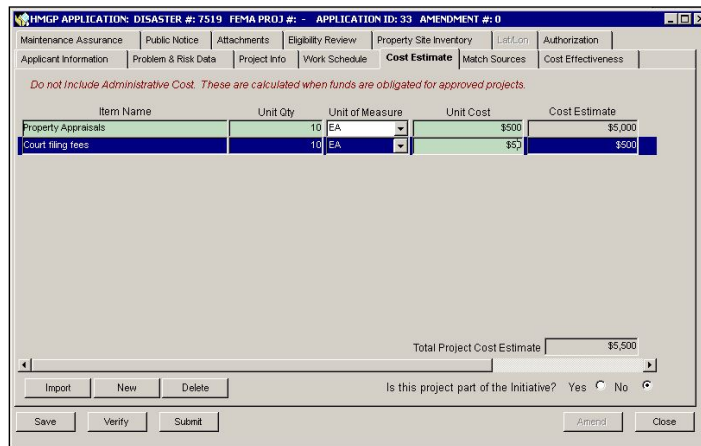

Figure 6-46: Cost Estimate Information Added
- Figure 6-46 shows Cost Estimate rows added to the project.